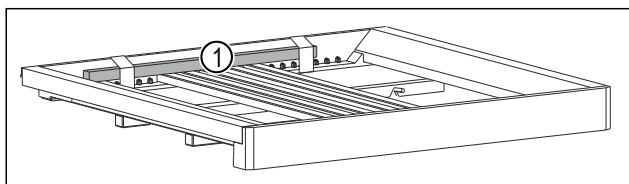

Fig. 7 *
- ▶ Remove the wooden stick Fig. 7 (1)*.